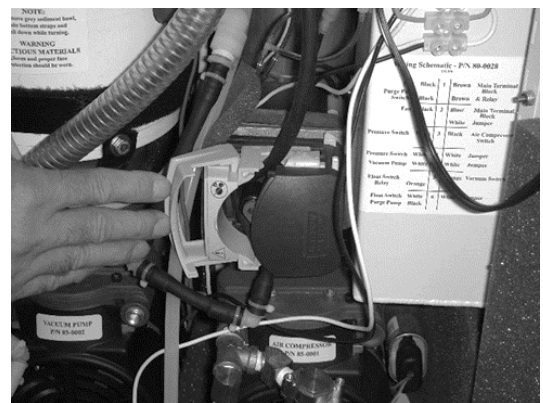

Fig. 2
Step 3 - Locate peristaltic purge pump housing and open to access the tubing. (Fig. 2)